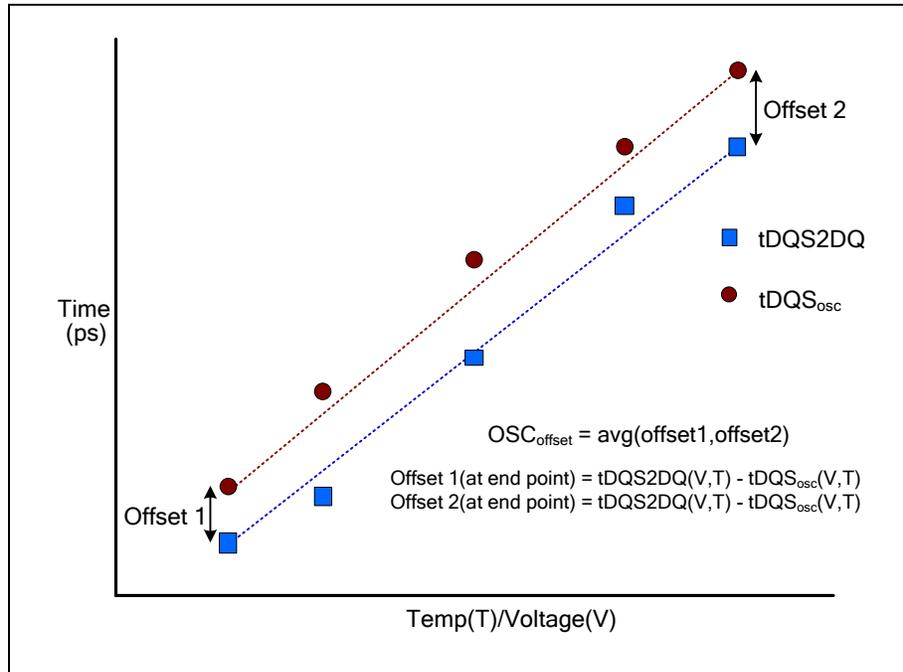

Figure 118 - Interval oscillator offset OSC_{offset}
- OSC_{offset} : Average delay difference over voltage and temp (shown in Figure118)